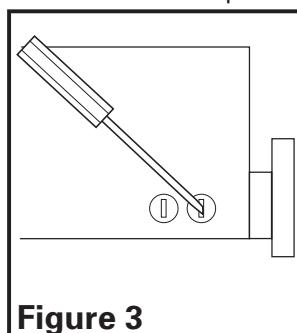

Figure 3
5. Remove the electrical knockouts using a straight-blade screw driver (**Figure 3**).